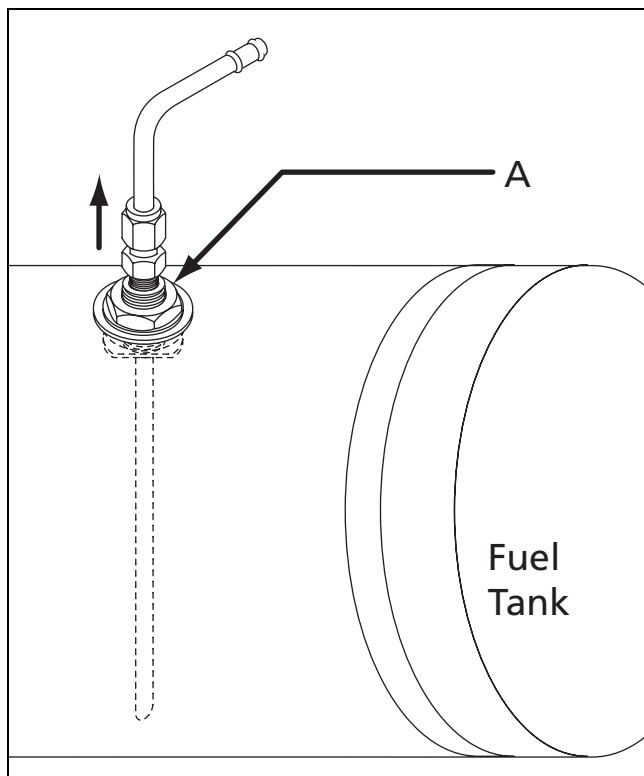

Figure 22: Standpipe installation - illustration 3
9. pull up on standpipe and tighten in place with the clamping nut (item A in Figure 22). Do not over-tighten causing rubber washer to squeeze out!